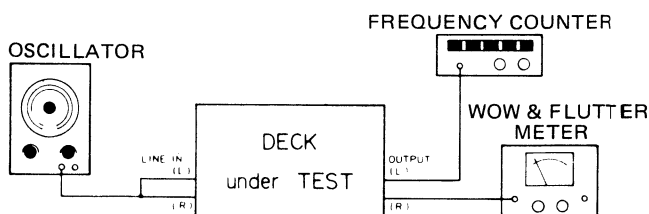

Fig. 2-13
1. Connect the test equipment to the deck as shown in Fig. 2-13.